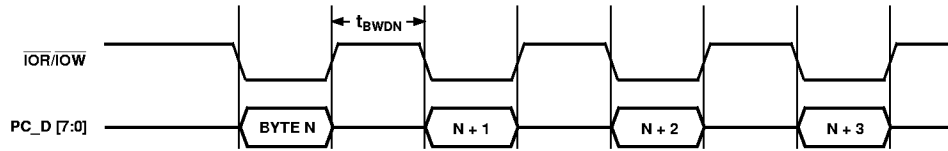

Figure 15. Codec Transfers
| PFMT [1:0] | (RW) | Playback Format. Use these bits to select the playback data format for output data according to Table VI and Figure 15. |
After setting format bits, sample data into the AD1815 must be ordered according to Figure 15, Table VI.
- CFMT [1:0] (RW) Capture Format. Use these bits to select the format for capture data according to the following Table VI and Figure 15.